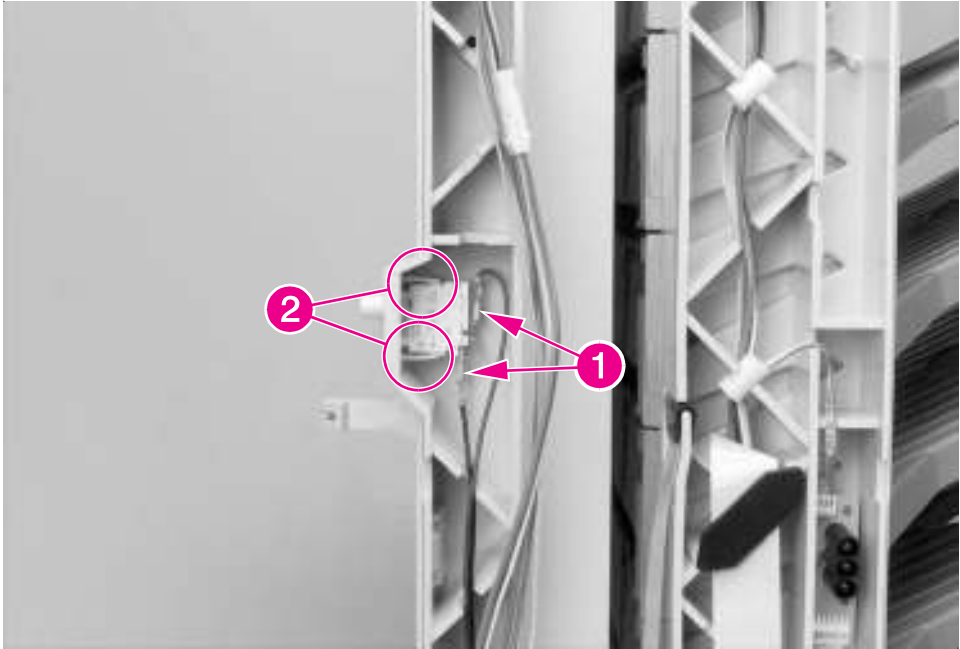

Figure 6-171 8-bin Mailbox Interlock Switch
- 2 Inside the back side of the 8-bin Mailbox frame, disconnect the 2 wires from the Interlock Switch (Figure 6-171, callout 1).